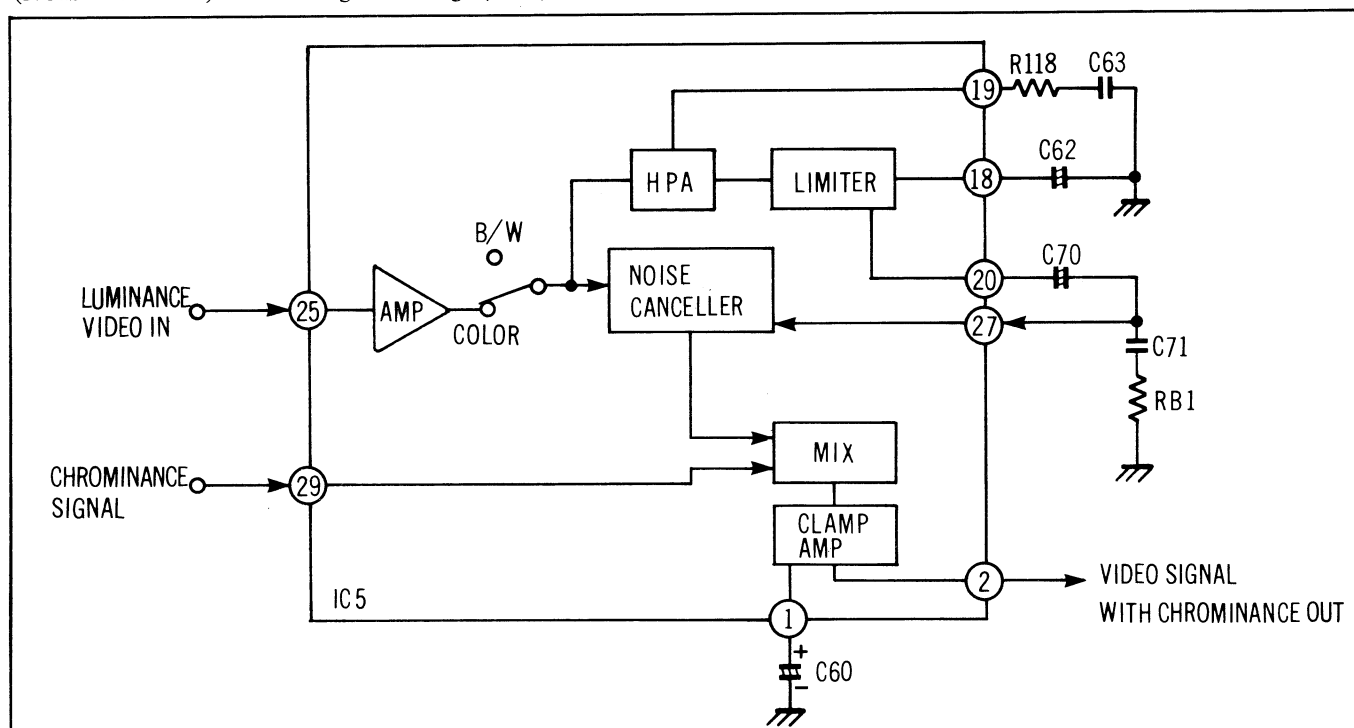

Figure 2-99
This signal (inverted noise), is coupled through C70 back to the summing amp IC5, (27). The output of the noise cancel stage goes internally to the luminance/chroma mix stage. The Chrominance signal from P304-(5) is amplified and buffered by Q18 and Q19 and sent to IC5 pin (29) to be added to the noise suppressed Luminance (See Fig. 2-99).